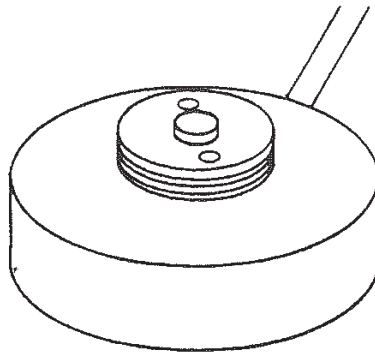

Figure 6. Magnetic Mounted Base
3. Route coaxial cable to the radio,. Refer to Figure 6.